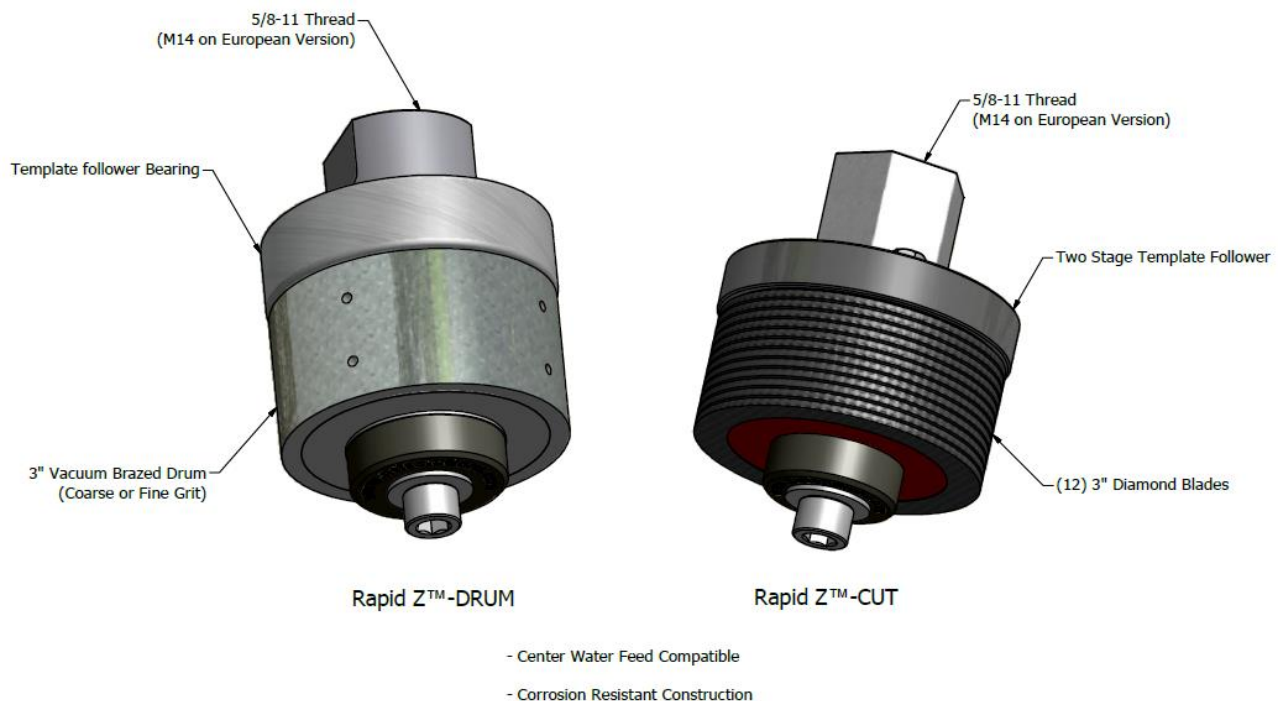

FIGURE 9 – Rapid Z™-CUT and Rapid Z™-DRUM by NSI Solutions LLC
3. For the first rough grinding step (step b. above) we supply our Rapid Z™-CUT - a 3" stacked blade "Z" wheel. This grinding wheel has 12 stacked diamond blades, and a bearing mounted stainless ring to ride against the template. It was specifically designed for use with the Sink BULL™. The blades grind quickly and can be rearranged easily to correct "apple coring" for maximum blade life. When they are completely worn out the blades are inexpensive to replace. The template follower ring incorporates a two stage design to help compensate for blade wear (see Figure 9). Other grinding wheels may be used but have not been tested by NSI Solutions LLC.